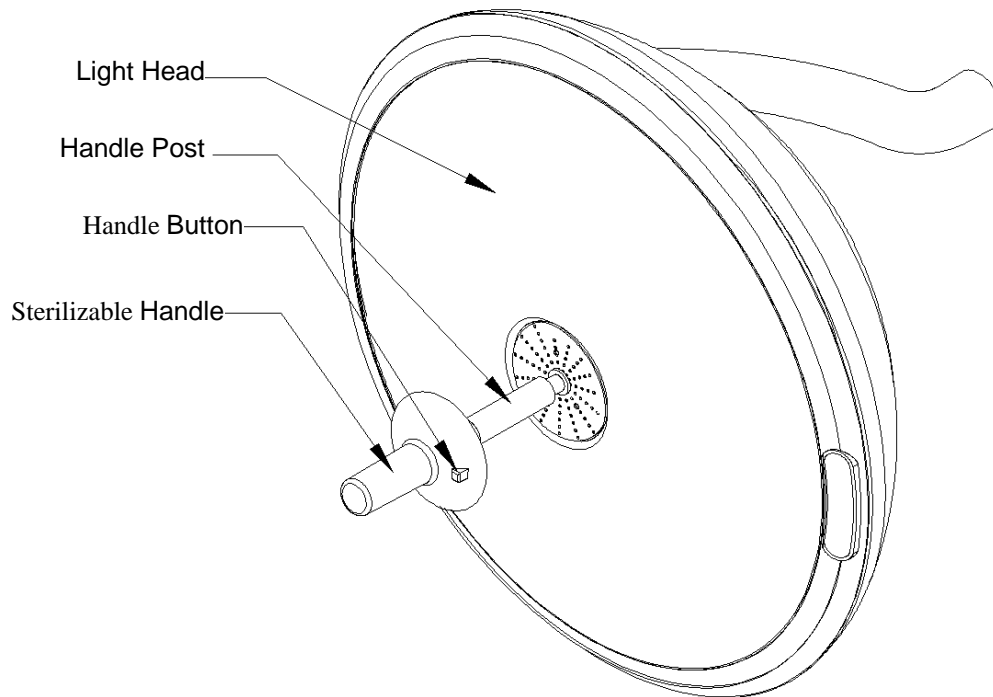

Figure 33- Handle Sterilization
- Remove sterilizable handle by pressing the button near the base of the handle and pulling the handle off the handle post(See Figure 33).